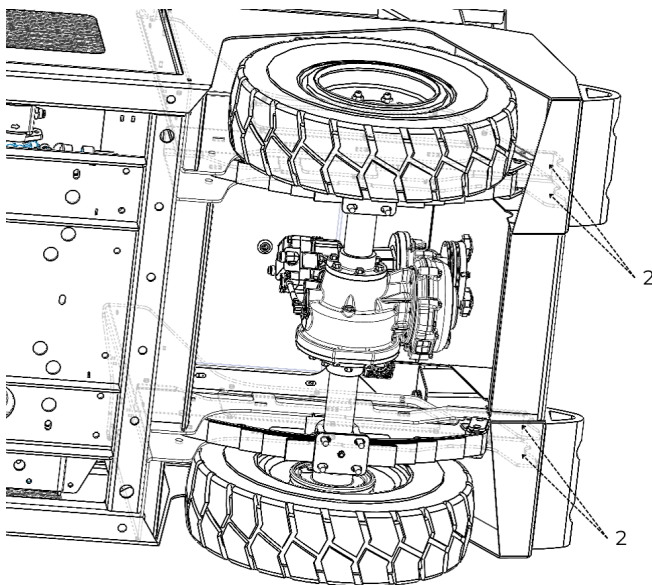

Figure 38. Suspension Mounting Tabs.
- Suspension mounting tabs (2) (see Figure 38).